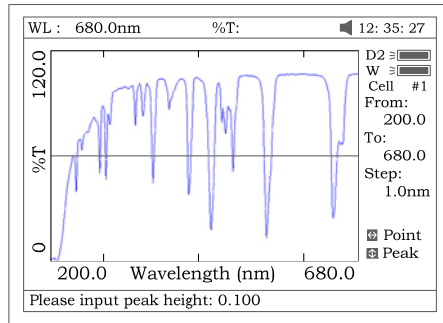
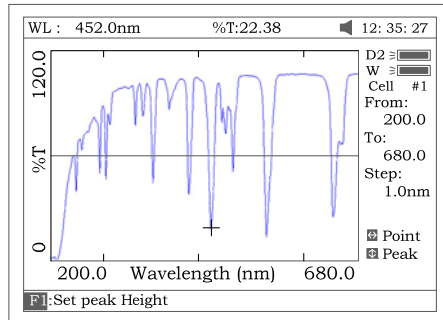

Fig 50
Fig 51
- a) *Peak to peak, press **[F1]** to set “peak height” and input value by pressing the numeric keypad (Fig 50). Press **[^]** to search the peak from left to right and press **[v]** to search from right to left. The value of every peak found will be displayed on the screen one at a time (Fig 51).*